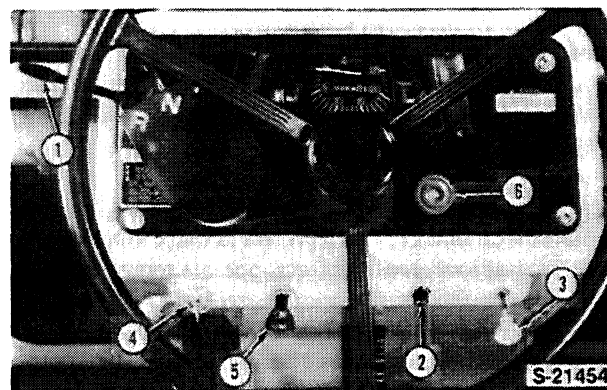
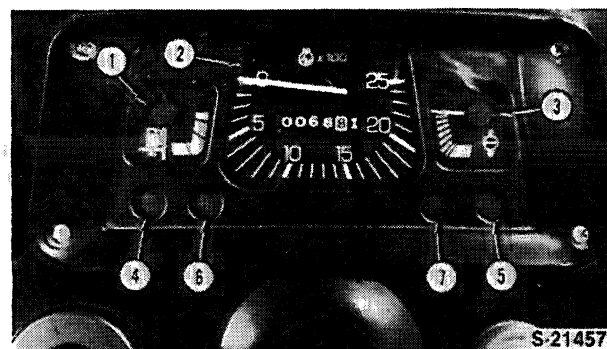
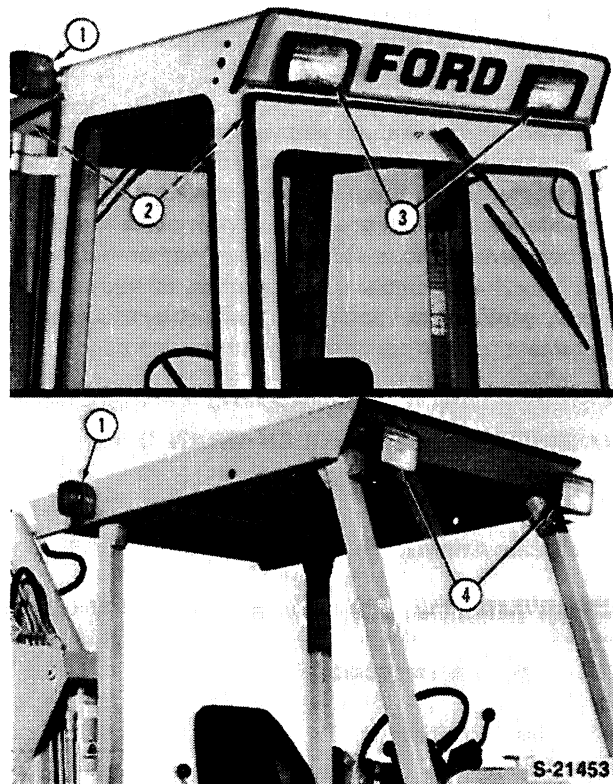

Figure 1
Figure 2
Figure 3
The operator's console controls are shown in Figure 1. The gauges and warning lights are shown in Figure 2.
The warning lights (5, 6 and 7) shown in Figure 2, come on when the key-start switch is turned "ON." The lights should go out when the engine is started. If the lights do not go out when the engine is running, proceed as follows:
Flasher warning lights (1), Figure 3, located on the side of the ROPS and Cab near the roof, are provided as standard equipment. The push-type switch (6), Figure 1, operates the lights and is internally illuminated and flashes when the lights are in use.
Turn signals are standard equipment. The turn signal indicator switch (1), Figure 1, operates the turn indicator lights (same lights as flasher warning lights).
The light switch (5), shown in Figure 1, is a rotating type which turns to the right to activate lighting circuits as follows: